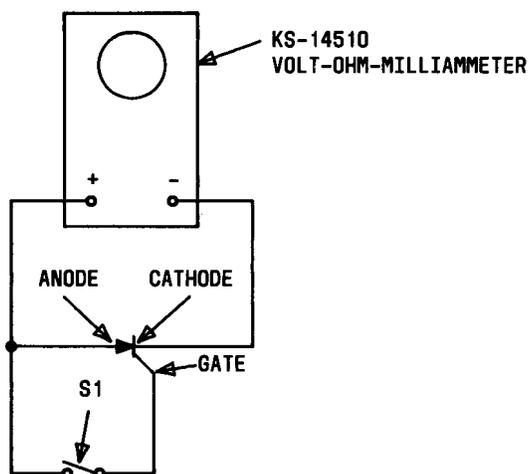

Fig. 5—SCR Test Set-Up
- (5) Remove the rectifier from service in accordance with the following procedures:
- (6) Disconnect the questionable thyristor gate lead at the T-13 transformer secondary terminals.
- (7) Prepare the test set-up shown in Fig. 5 and perform (8) through (12).
- (8) Connect an ohmmeter as shown in Fig. 5:
- (9) With the ohmmeter in the RX1 scale, operate switch S1 to the ON position.